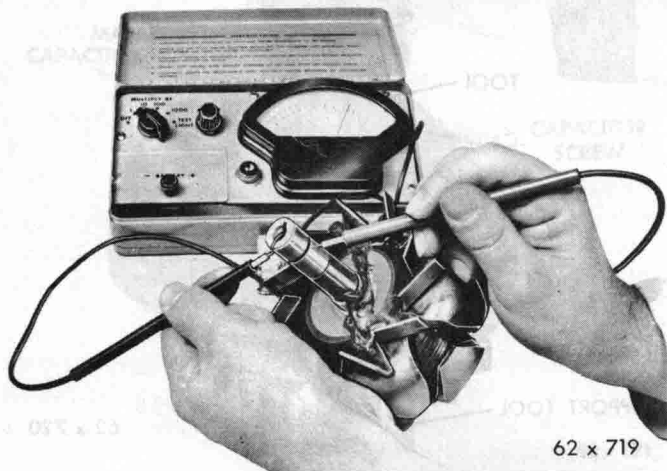

Fig. 54—Testing Soldering Operation with Ohmmeter
(10) Test soldering operation with ohmmeter, to check resistance one prod to negative slip ring, other prod to positive slip ring (Fig. 54). Reading should be 3.8 to 4.2 ohms. If resistance exceeds 4.2 ohms the leads are not securely soldered
(11) Test each slip ring for ground with a 110 volt test lamp by touching one test lead prod to the rotor pole shoe and remaining prod to each ring. Test lamp should not light. If lamp lights, slip rings are shorted to ground, possibly due to grounding insulated field lead when installing the slip rings.